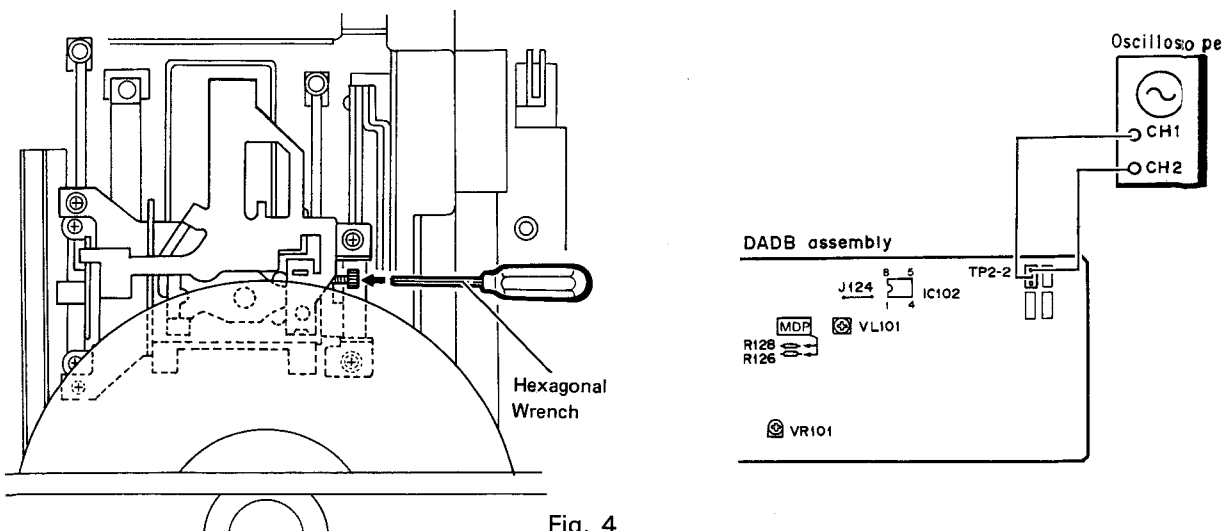

Fig. 4
7. Move the pick-up toward outside again, and rotate the centering adjustment screw clockwise by 45° with the hexagonal wrench. (Fig. 4)